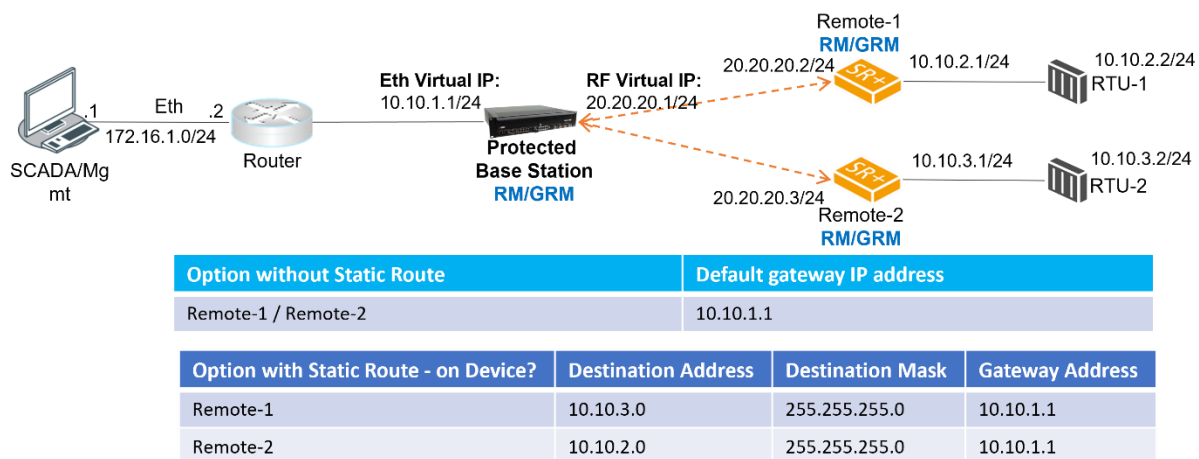

Figure 1 RM/GRM Peer-to-Peer communication options
In RM/GRM, the base station builds a semi-automated routing table for all remotes and directly connect RTUs without any static routes on the remote radios. Thus, when the RTU sends a packet with a destination IP of the distant RTU for peer to peer, the packet is sent/routed to the default gateway IP address i.e. to the base station, which routes the packet to the destined RTU based on its semi-automated routing table. See example Figure 1 and **option without static route** table below for peer-to-peer communication between RTU-1 and RTU-2.
2. Or alternatively, set a static route on remotes when the **default gateway IP address** is not via the base station or when there is a LAN network connected to the remote radios and not all LAN traffic should be sent OTA to SCADA master or to distant remote (for peer-to-peer). The static route on the remote for peer-to-peer uses the Ethernet port IP (or Eth PVIP in case of protected station) as the next hop IP. Thus, when RTU sends the packet with a destination IP of distant RTU, the packet is sent/routed by the remote to base station based on its static route, and the base station routes the packets to the destined RTU based on its semi-automated routing table. See example Figure 1 and **option with static route** table below for peer-to-peer communication between RTU-1 and RTU-2.